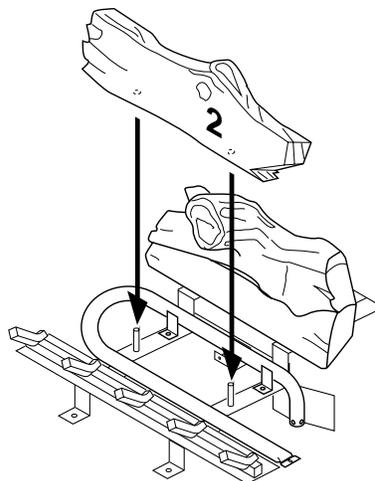

Figure 52 - Installing Log No. 2
2. Rest log #2 (large front log) on the pins on the front part of the grate (see Figure 52).